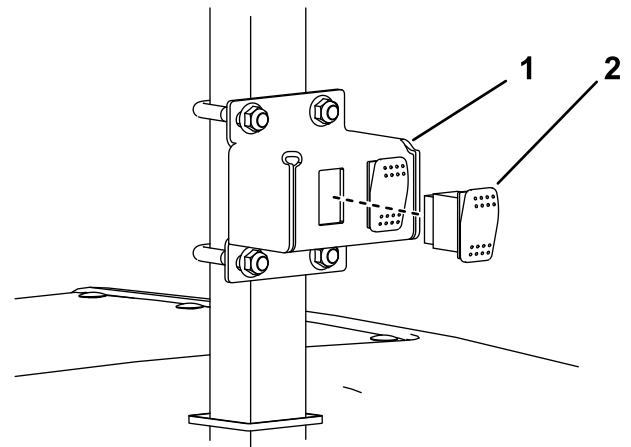

Figure 13
- Connect the beacon switch to the work light switch assembly as shown in Figure 13.